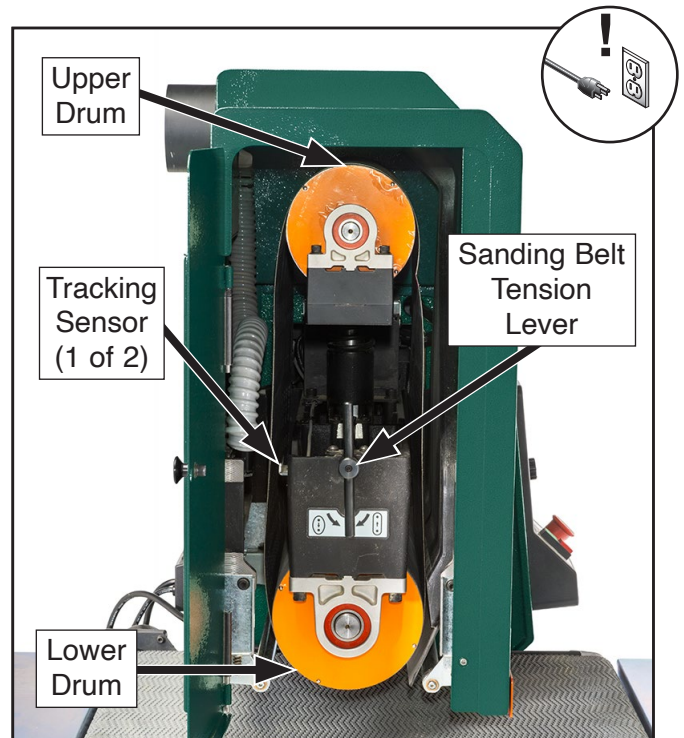

Figure 27. Location of drums, tension lever, and tracking sensors.
3. Rotate sanding belt tension lever counterclockwise to remove belt tension (shown in **Figure 27**), and remove existing belt.
4. Install sanding belt by starting on upper drum, then lower drum (see **Figure 27**).
5. Line up edge of sanding belt with left edge of drums so sanding belt edge is centered between tracking sensor LED screens shown in **Figure 27**.